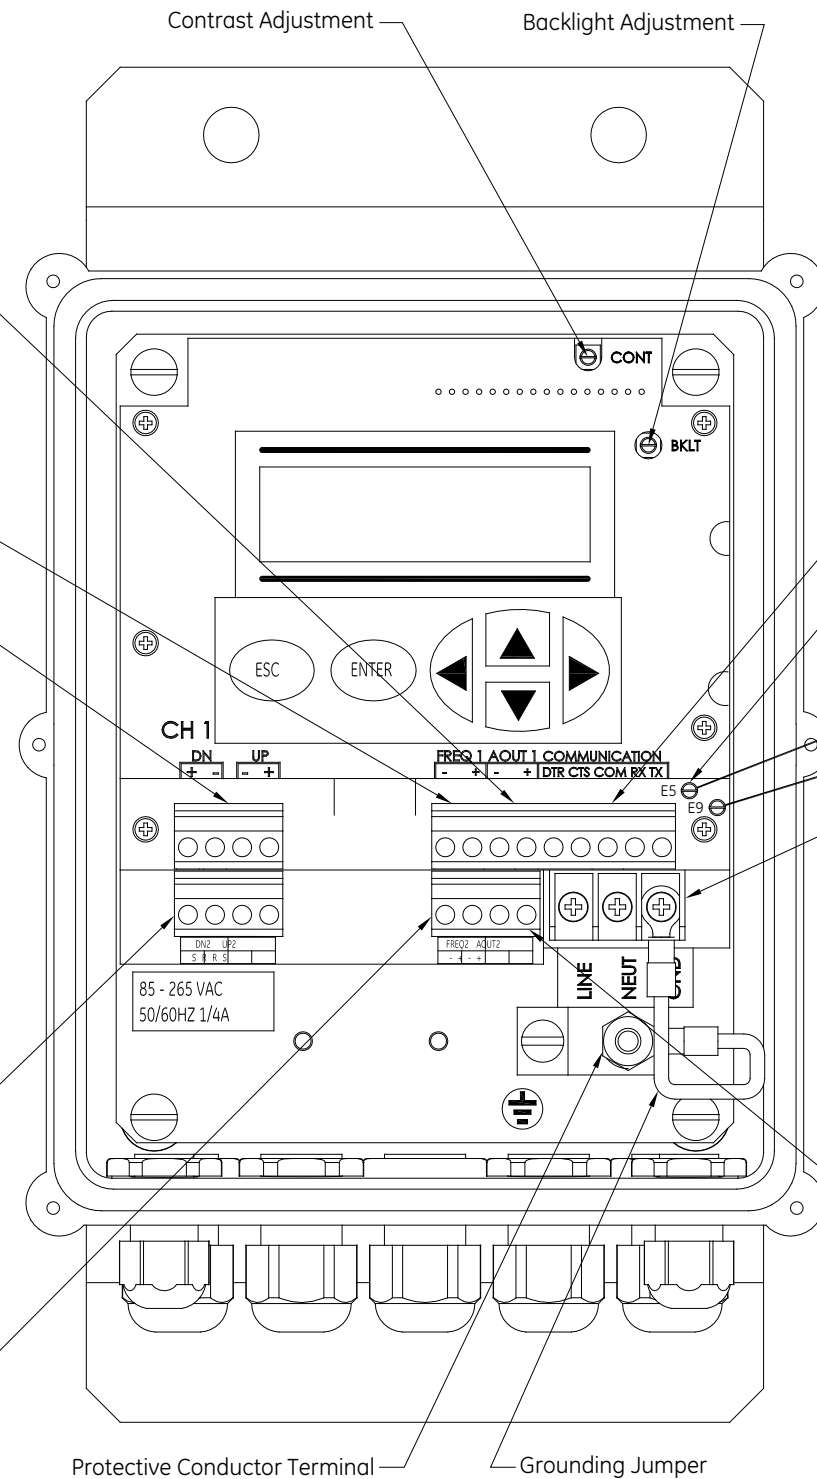

Figure 4: Wiring Diagram (Ref. Dwg. #702-425)
3. Feed the flying leads end of the cable through the conduit hole and wire the leads to the **COMMUNICATION** terminal block as shown in *Figure 4* on page 12. Connect the other end of the cable to the printer, ANSI terminal or personal computer, and secure the cable clamp.
To wire the RS485 serial port, refer to *Figure 4 on page 12* and complete the following steps:
2. Feed one end of the cable through the conduit hole and wire the leads to the **COMMUNICATION** terminal block as shown in *Figure 4 on page 12*. Secure the cable clamp.
2. Feed the wires through the conduit hole and wire lead **TMT+** to pin 2 (**RX**) on the **COMMUNICATION** terminal block (refer to *Figure 4 on page 12* for the terminal block location).
2. Refer to *Figure 4 on page 12* to properly connect the external switch to the AT868.